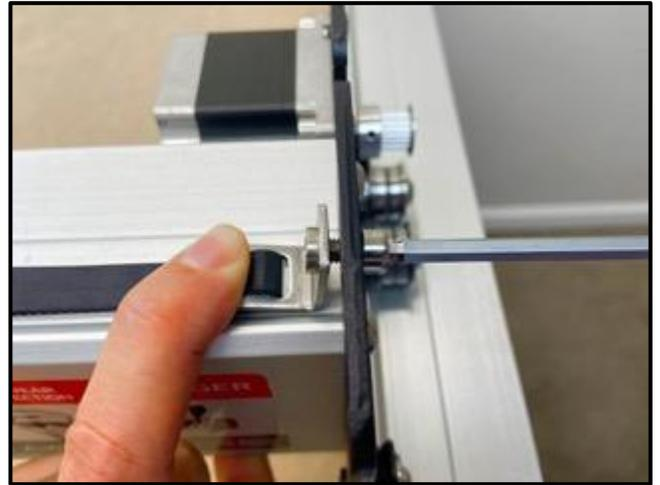

Figure 5-11
10. Use the 4mm hex key and one (1) M5x10mm socket head cap screw to attach the belt clip to the Y2-carriage. Insert the screw from the **OUTSIDE** and tighten. Do not over tighten as this could bend the X-motor pulley. See *Figure 5-11*.